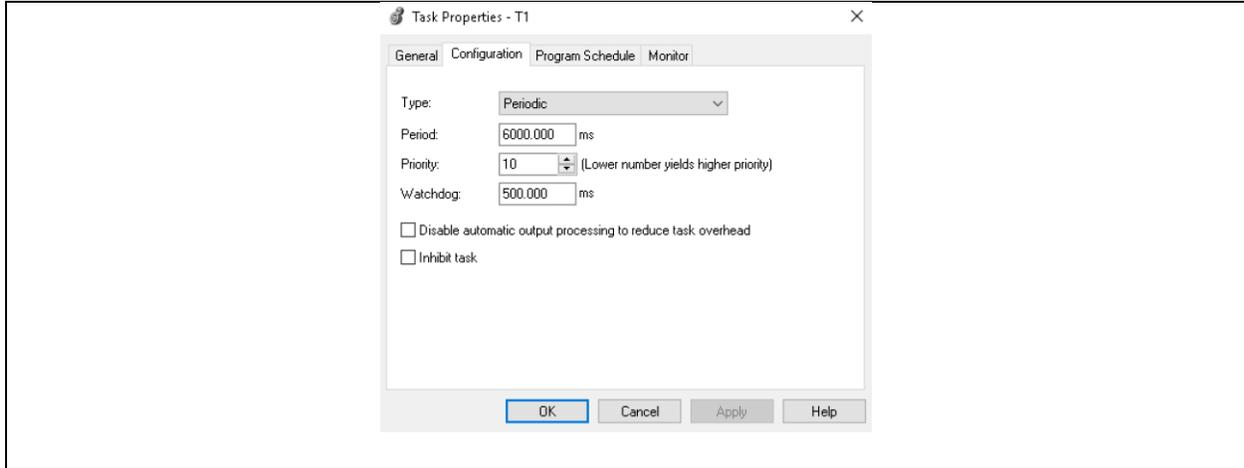

Figure 7. Configuration of the T1 Task.
2. Click on the Configuration Tab as shown in Figure 7, and set the time for 6000 msec, which is 6 seconds.